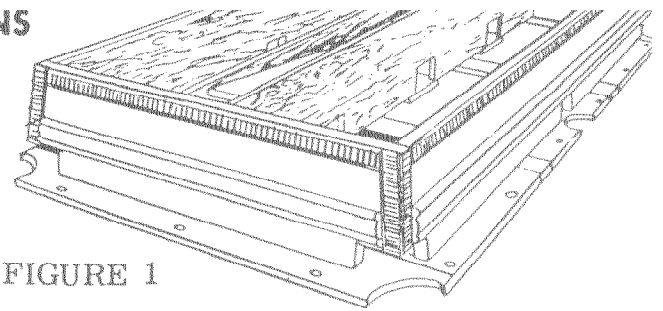

FIGURE 1
- 1A. Position base frame assembly upside down as shown in Figure 1.